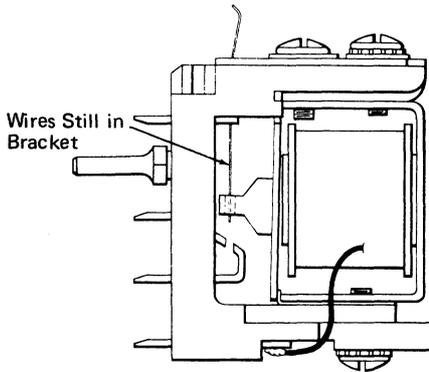
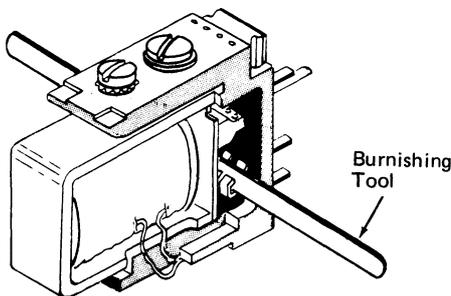

Figure 2-4. Checking Contacts
Figure 2-5. Cleaning Contacts
3. Clean burned points of a wire contact relay with a burnishing tool, part 450567, by forming a slight S curve in the tool. Pull the wires up so that they clear the contacts but are still in the wire bracket (Figure 2-4). The burnishing tool can now be moved back and forth between the stationary contacts (Figure 2-5). As the wires are pushed back into place, check each wire visually for signs of wear or burning. Replace wires in poor condition.